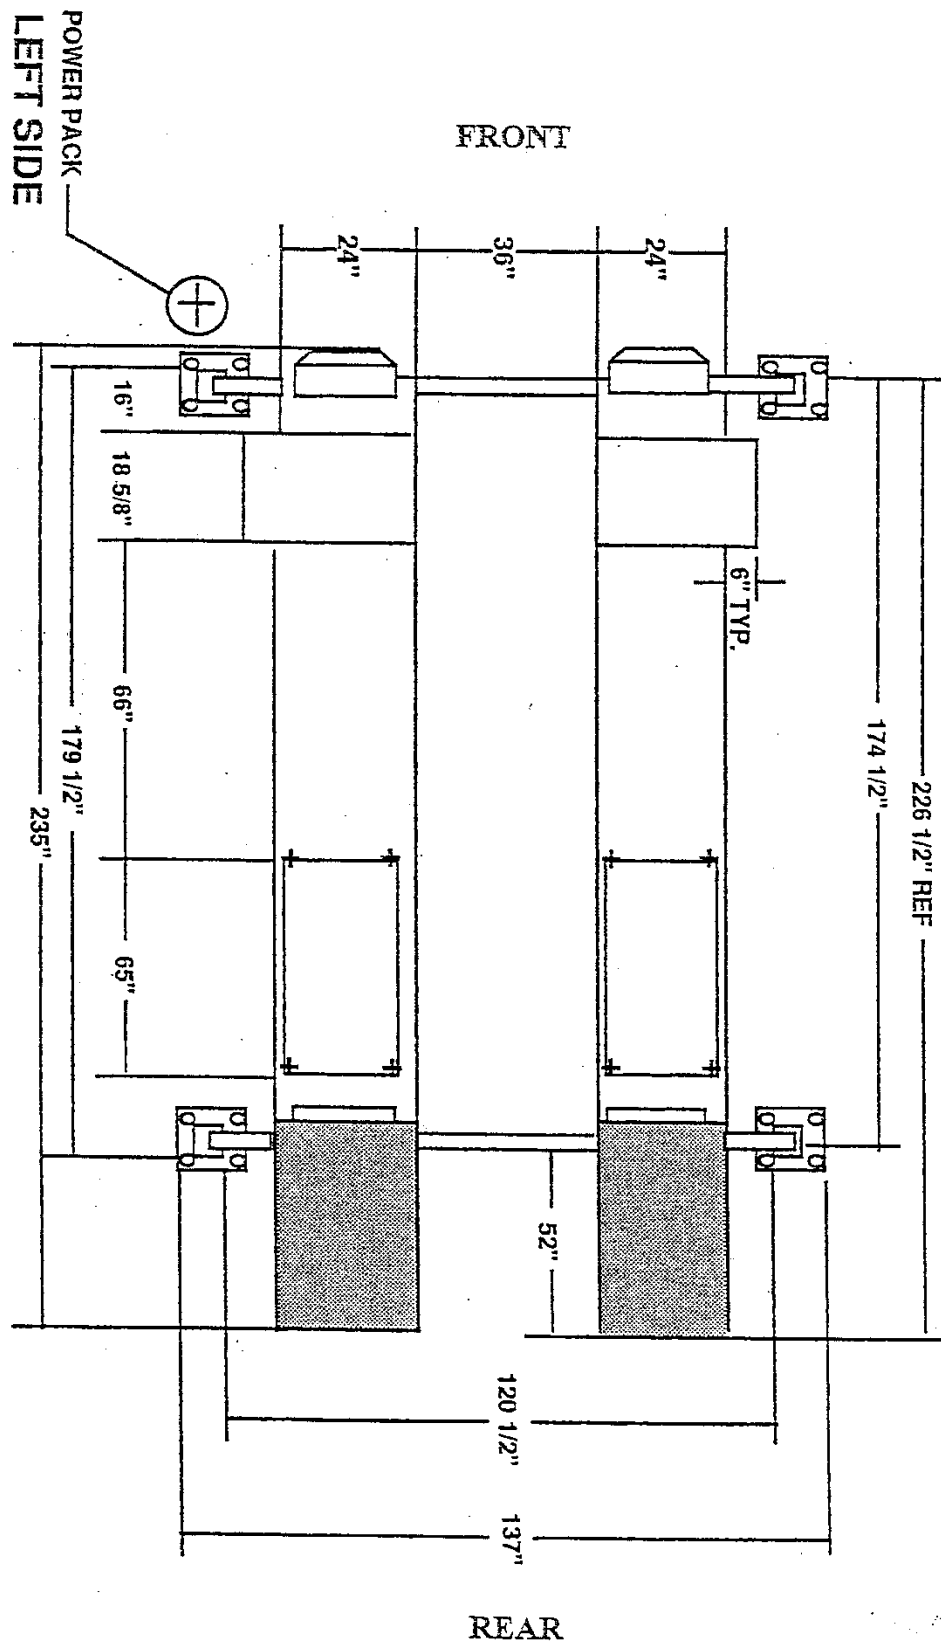
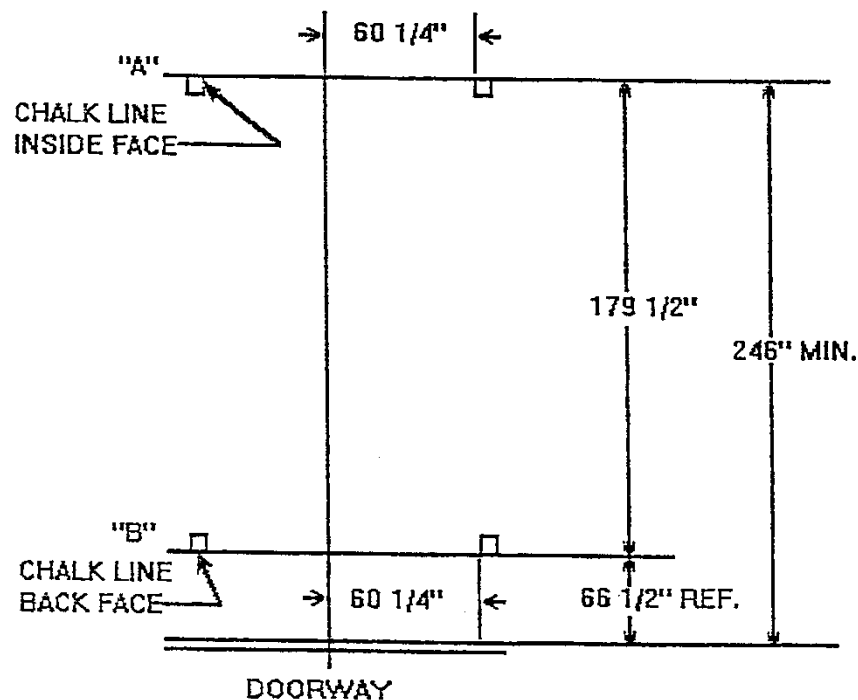
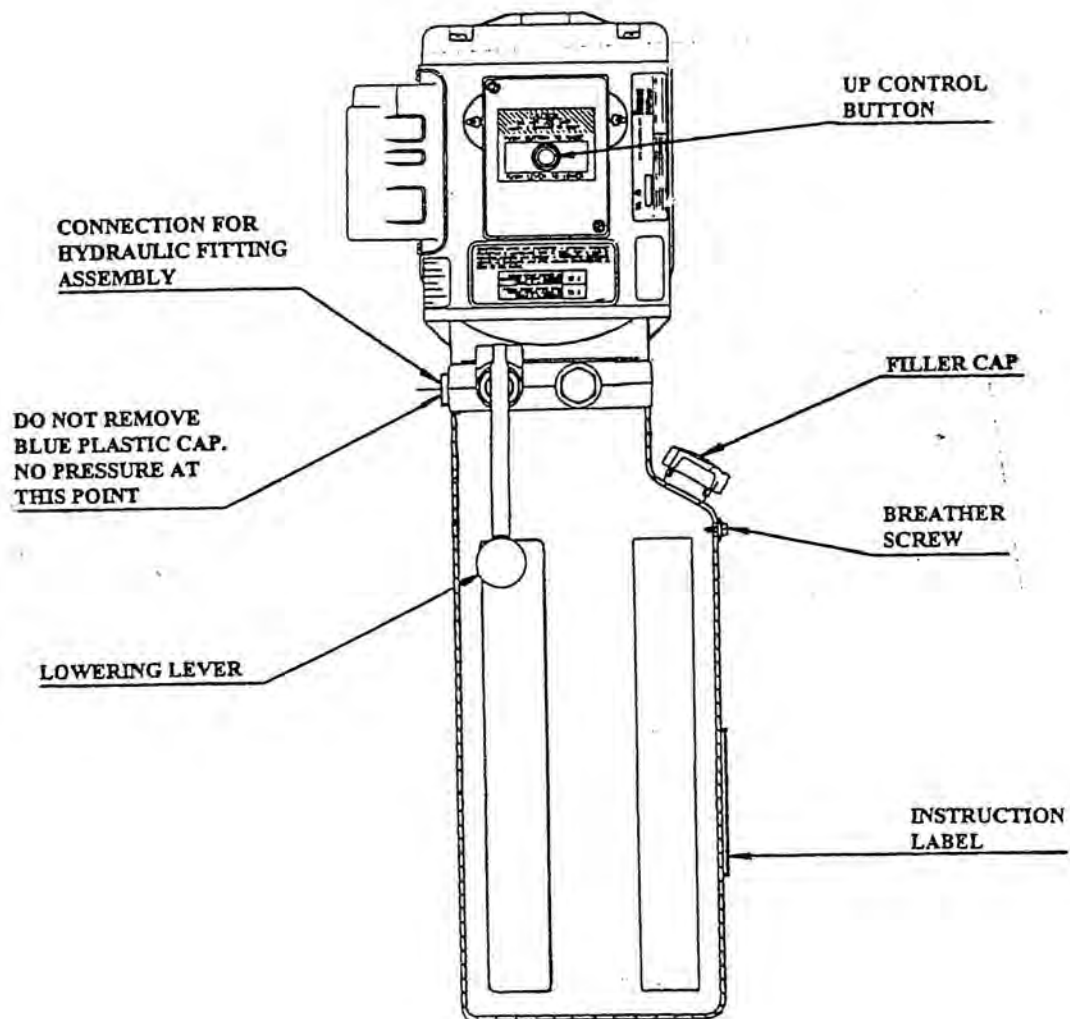

Figure 1
Figure 2
Figure 7
- An outline matching the dimensions listed below will need to be marked on the floor. Refer to Figure 2 for outline dimensions. Refer to General Lift Specifications for overall lift dimensions. Figure 1.
Refer to Figure 2. Make a chalk line parallel to the doorway at least 246 inches in from the doorway. This will be the furthest front face of the front post location. Call this line "A". Determine the center of the doorway and bay. Make a centerline to intersect with line "A". Measure from the centerline along line "A" 60 1/4 inches in both directions. This will be the location of the inside face and front face of the front posts. Measure back from this line "A" 179 1/2 inches. Make a chalk line parallel to line "A". Call this line "B". This will be the location for the back face of the rear posts. Measure from the centerline along line "B" 60 1/4 inches in both directions. This will be the location of the inside face and back face of the rear posts. Position work stands inside of line "A" and "B" of outline, to support the front and rear of each deck assembly.
- Stand posts into position according to Figure 1 and 2.
- Install the threaded stud end of the cables through the top of the post. Use a 7/8" flat washer, and two (2) 7/8"-14 UNF hex nuts with cable spacers as required, to compensate for uneven floors.
- Bolt the power pack to the mounting bracket on the front face of the left front post using four (4) 5/16"-18UNC × 1"LG. hex head bolts and four 5/16" lockwashers. Refer to Figure 7.